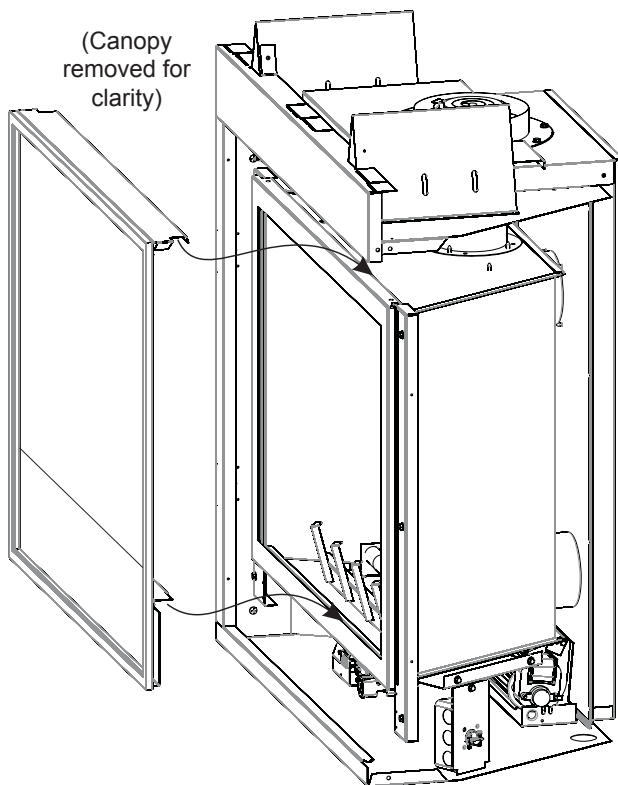

Figure 86
- Check the barrier screen for fit and structural integrity. **See Figure 86.**